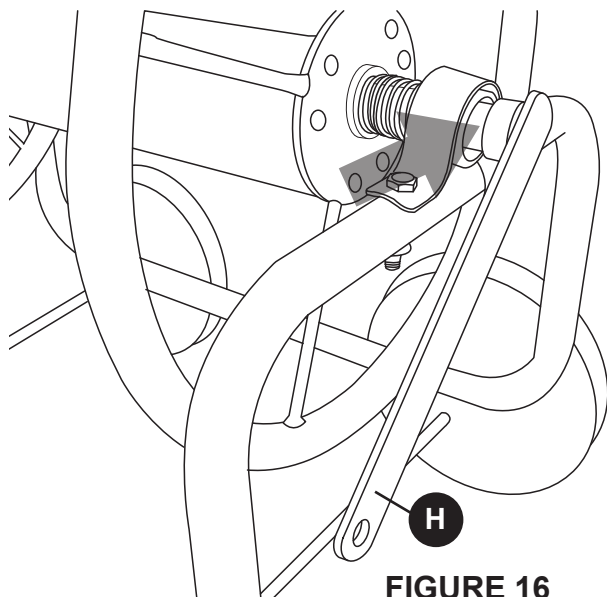

FIGURE 16
16. Attach the crank handle (H) to the spring loaded spool end and hand tighten. **DO NOT OVER TIGHTEN. See Figure 16**